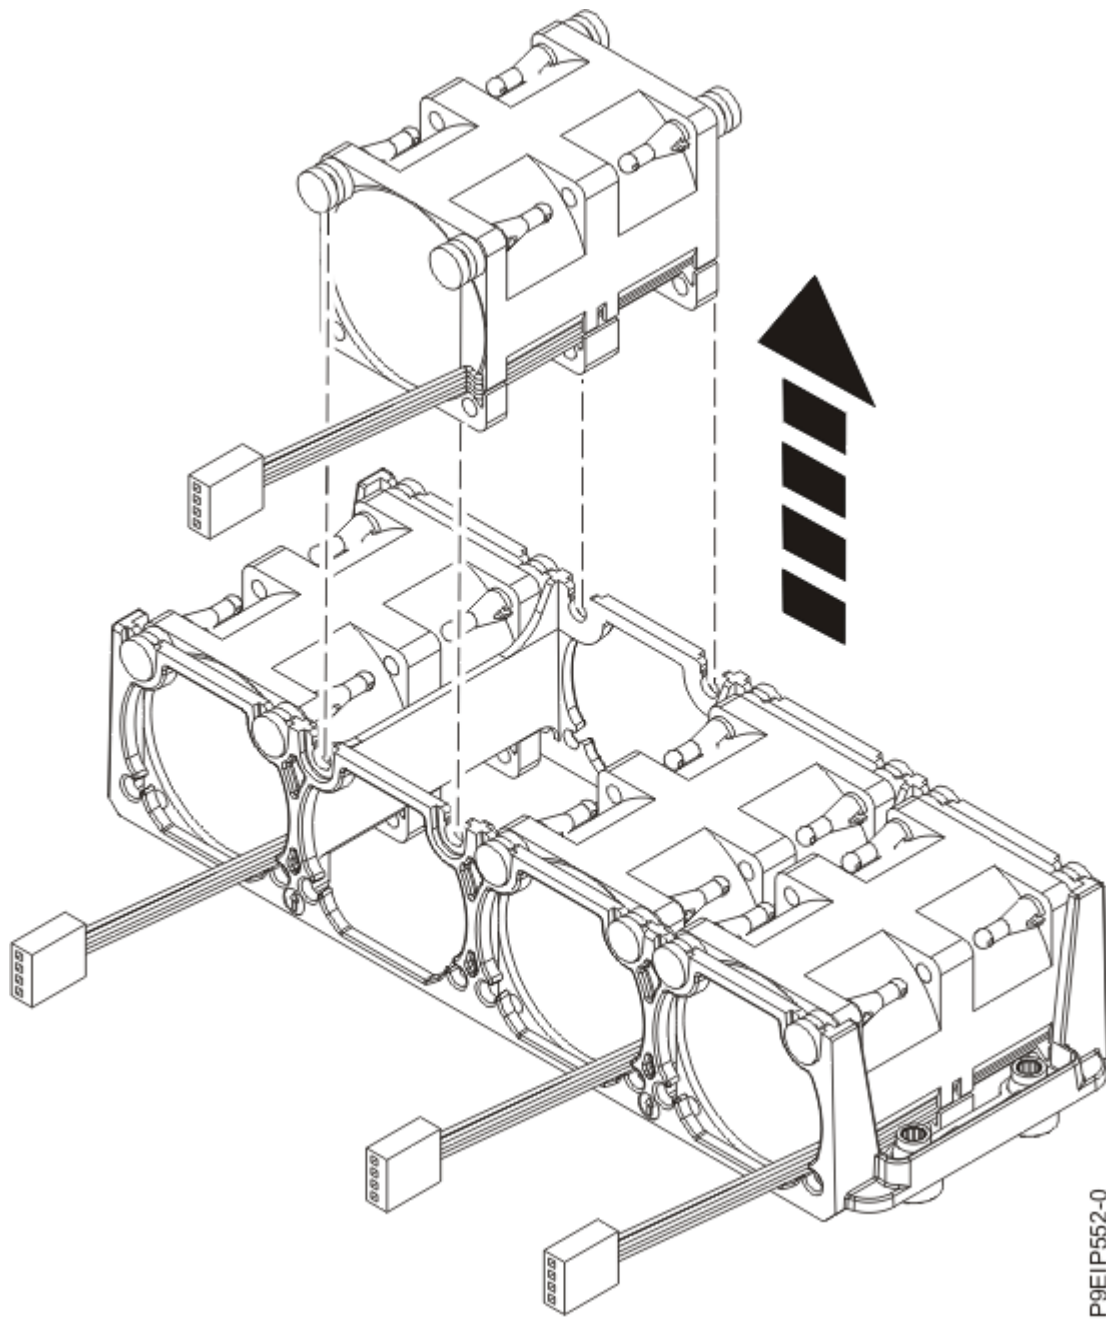

Figure 13. Removing a fan
4. Push the fan up from the holder as shown in Figure 13 on page 18.